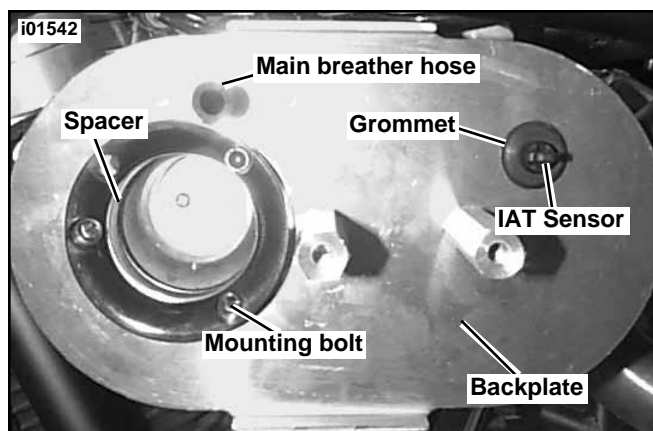

Figure 19. Model S3 Race Air Cleaner Backplate
10. For S3 Models, see Figure 19. Install IAT sensor grommet into backplate.
13. See Figure 19 or 20. Carefully install main breather hose into backplate.